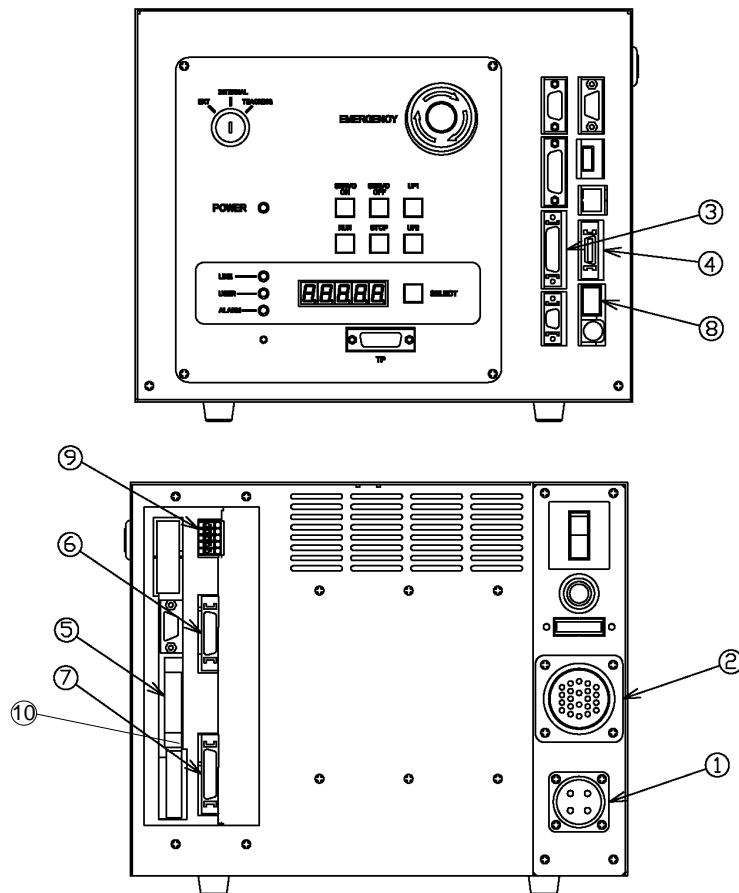

Fig. 15.1 Robot controller connector arrangement (TS3000 and TS3000E)
The cables connected to the robot controller are shown in Fig. 15.1.
### 15.1.2 Connecting the Power Cable "ACIN" (① of Fig. 15.1) (plug connector attached)
The connector is ACIN (① of Fig. 15.1).
### 15.1.3 Connecting the Motor Cable "MOTOR" (② of Fig. 15.1) (THL300 to THL1000)
#### 15.1.4 Connecting the Encoder Cable "ENC" (③ of Fig. 15.1)
The connector for connecting the encoder cable is ENC (③ of Fig. 15.1).
#### 15.1.5 Connecting the Robot Control Signal Cable "HAND" (④ of Fig. 15.1)
The connector for connecting the robot control signal cable is HAND (④ of Fig. 15.1).
15.1.6 Connecting the Brake Signal Cable "BRK" (⑧ of Fig. 15.1)
The connector for connecting the brake signal cable is BRK (⑧ of Fig. 15.1).
15.1.7 Connecting the External Input/Output Power Cable "EMS" (⑩ of Fig. 15.1)